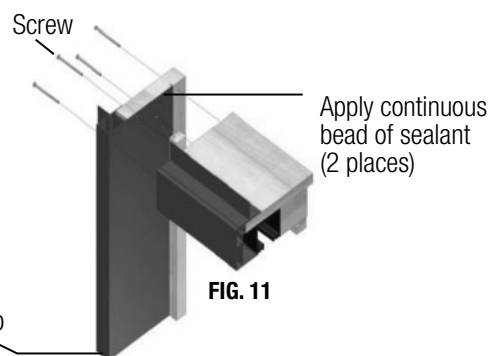

FIG. 11
- E) Apply 100% silicone sealant to the end of the head track assembly, attach the jambs to the head with the 2-1/2" x #8 screws provided. (Fig. 11)